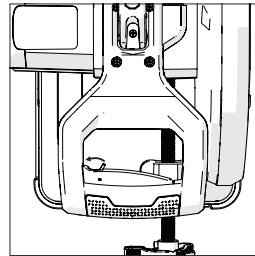

Fig. 12
- Push in the safety lock on the left side of the trigger switch to the left (**Fig. 12**).